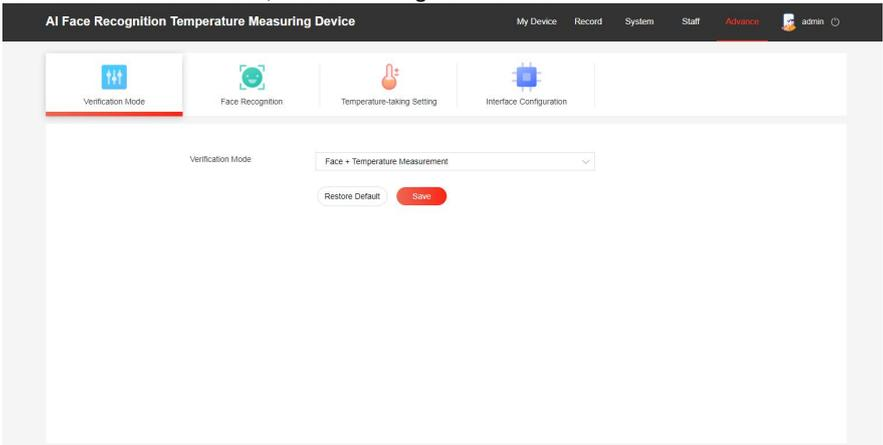

Figure 7-23
Step 1: After logging in to the web page, click "Advance → Verification Mode" to enter the verification mode interface, as shown in Figure 7-23 below.